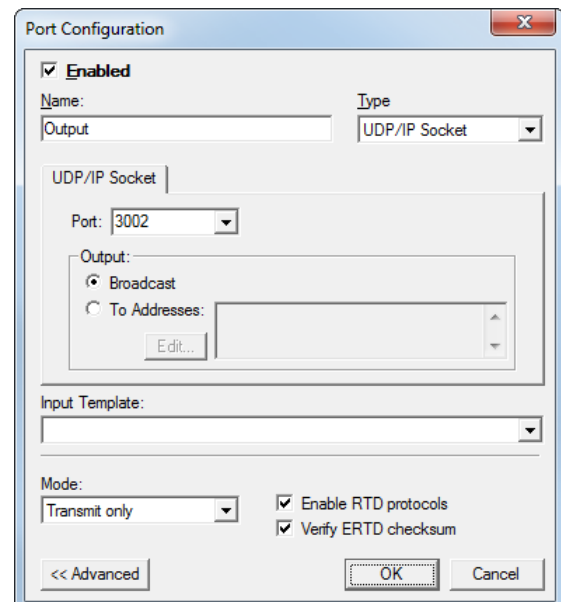

Figure 52: Port 5 Configuration
- Double-click **Port 5** and the *Port Configuration* window will open again. Configure Port 5 as follows and as shown in **Figure 52**: